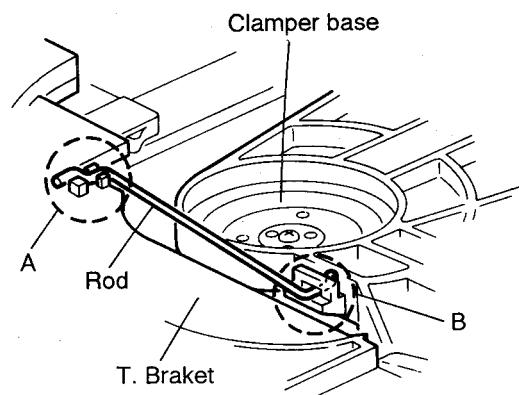

Fig. 5-18
(See Figs. 5-18~5-24)
4. From the T. bracket section (A) and clamper base section (B), remove both of the edges fixing the rod (See Figs. 5-18 and 5-19).
5. Remove the three screws (1) retaining the T. bracket (See Fig. 5-18).